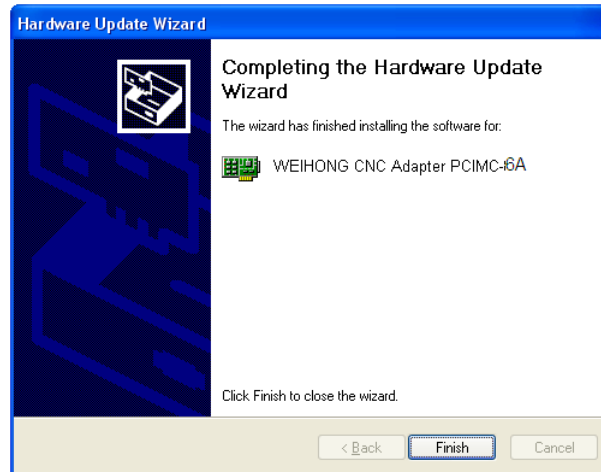

Fig. 2-8 Driver update completed
- 8) When the updating is finished, a dialog as shown in Fig. 2-8 will pop up. Click [Finish] to complete the update of the hardware driver.